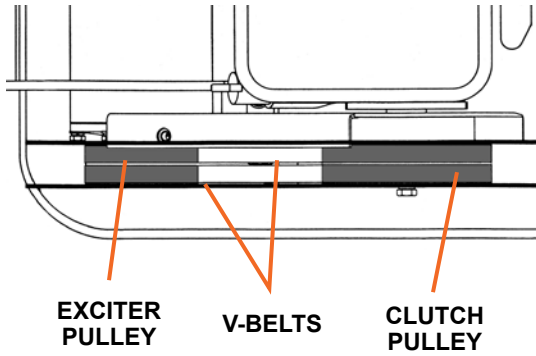

Figure 11
3. Push the engine toward the front of the plate and slip the v-belts off of the pulleys (see Figure 11).